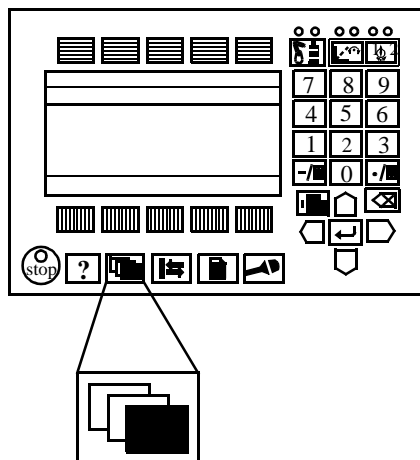

Figure 21 The Misc. window key from which the Service window can be chosen.
1. Press the **Misc.** window key (see Figure 21).